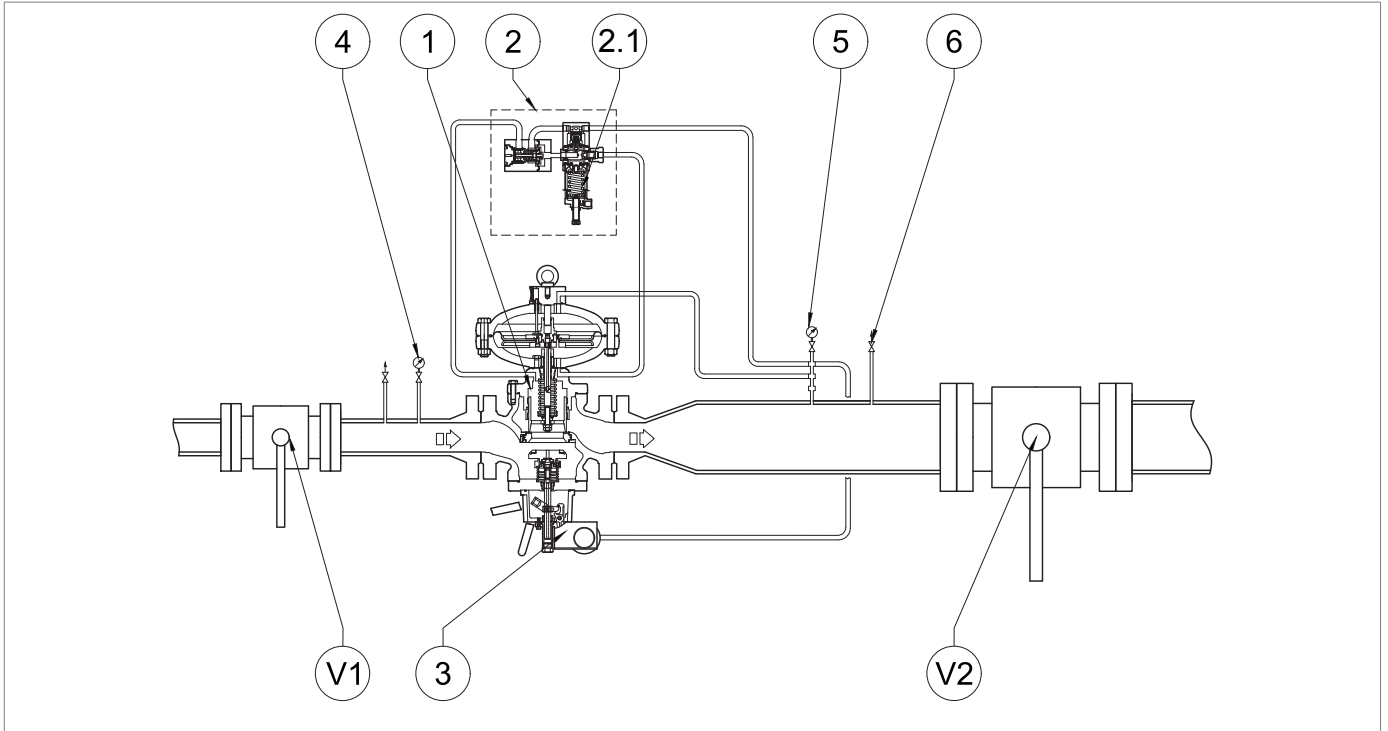
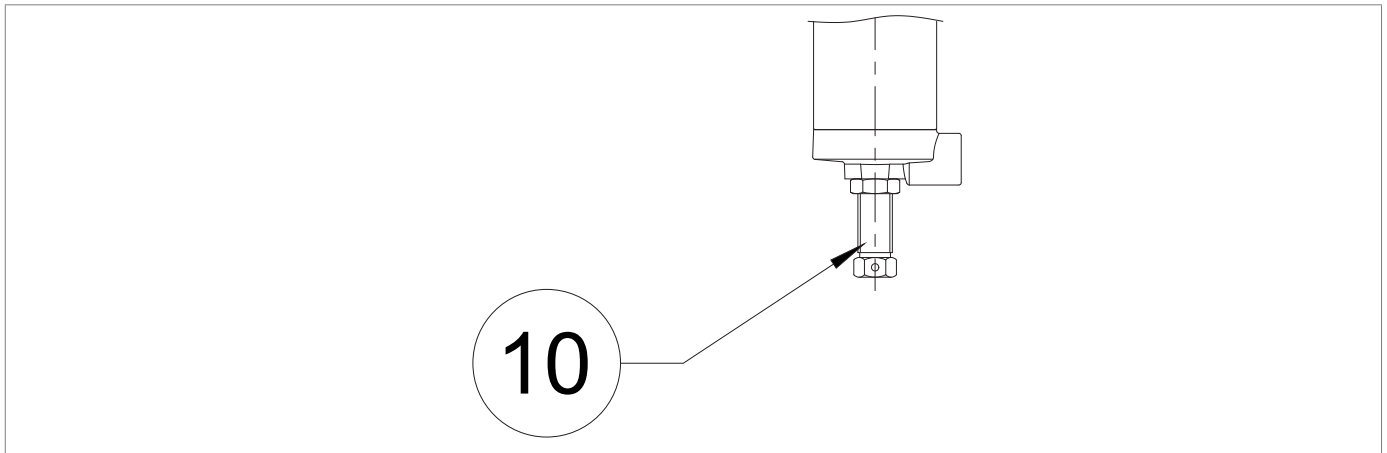

Fig. 8.32 Sealing of the SB/82 slam-shut valve when closing
Fig. 8.36. 200/A series pilots
9	a - FOR INITIAL COMMISSIONING OF THE REGULATION LINE If the pressure downstream (Pd) is not at the required calibration value, proceed as follows: <ul style="list-style-type: none"> value of the downstream pressure (Pd) is lower than the required calibration value: load the pilot calibration spring (Fig. 8.32, ref. 2.1) by turning the adjustment screw (Fig. 8.36, ref. 10) clockwise value of the downstream pressure (Pd) is higher than the required calibration value: unload the pilot calibration spring (Fig. 8.32, ref. 2.1) by turning the adjustment screw (Fig. 8.36, ref. 10) counterclockwise b - AFTER MAINTENANCE OF THE REGULATION LINE <ul style="list-style-type: none"> load the pilot calibration spring (Fig. 8.32, ref. 2.1) by turning the adjustment screw (Fig. 8.36, ref. 10) clockwise to increase the regulator (1) pressure value by turning the adjustment ring nut (3) clockwise
9	<p>a - FOR INITIAL COMMISSIONING OF THE REGULATION LINE If the pressure downstream (Pd) is not at the required calibration value, proceed as follows:</p> <ul style="list-style-type: none"> value of the downstream pressure (Pd) is lower than the required calibration value: load the pilot calibration spring (Fig. 8.32, ref. 2.1) by turning the adjustment screw (Fig. 8.36, ref. 10) clockwise value of the downstream pressure (Pd) is higher than the required calibration value: unload the pilot calibration spring (Fig. 8.32, ref. 2.1) by turning the adjustment screw (Fig. 8.36, ref. 10) counterclockwise <p>b - AFTER MAINTENANCE OF THE REGULATION LINE</p> <ul style="list-style-type: none"> load the pilot calibration spring (Fig. 8.32, ref. 2.1) by turning the adjustment screw (Fig. 8.36, ref. 10) clockwise to increase the regulator (1) pressure value by turning the adjustment ring nut (3) clockwise